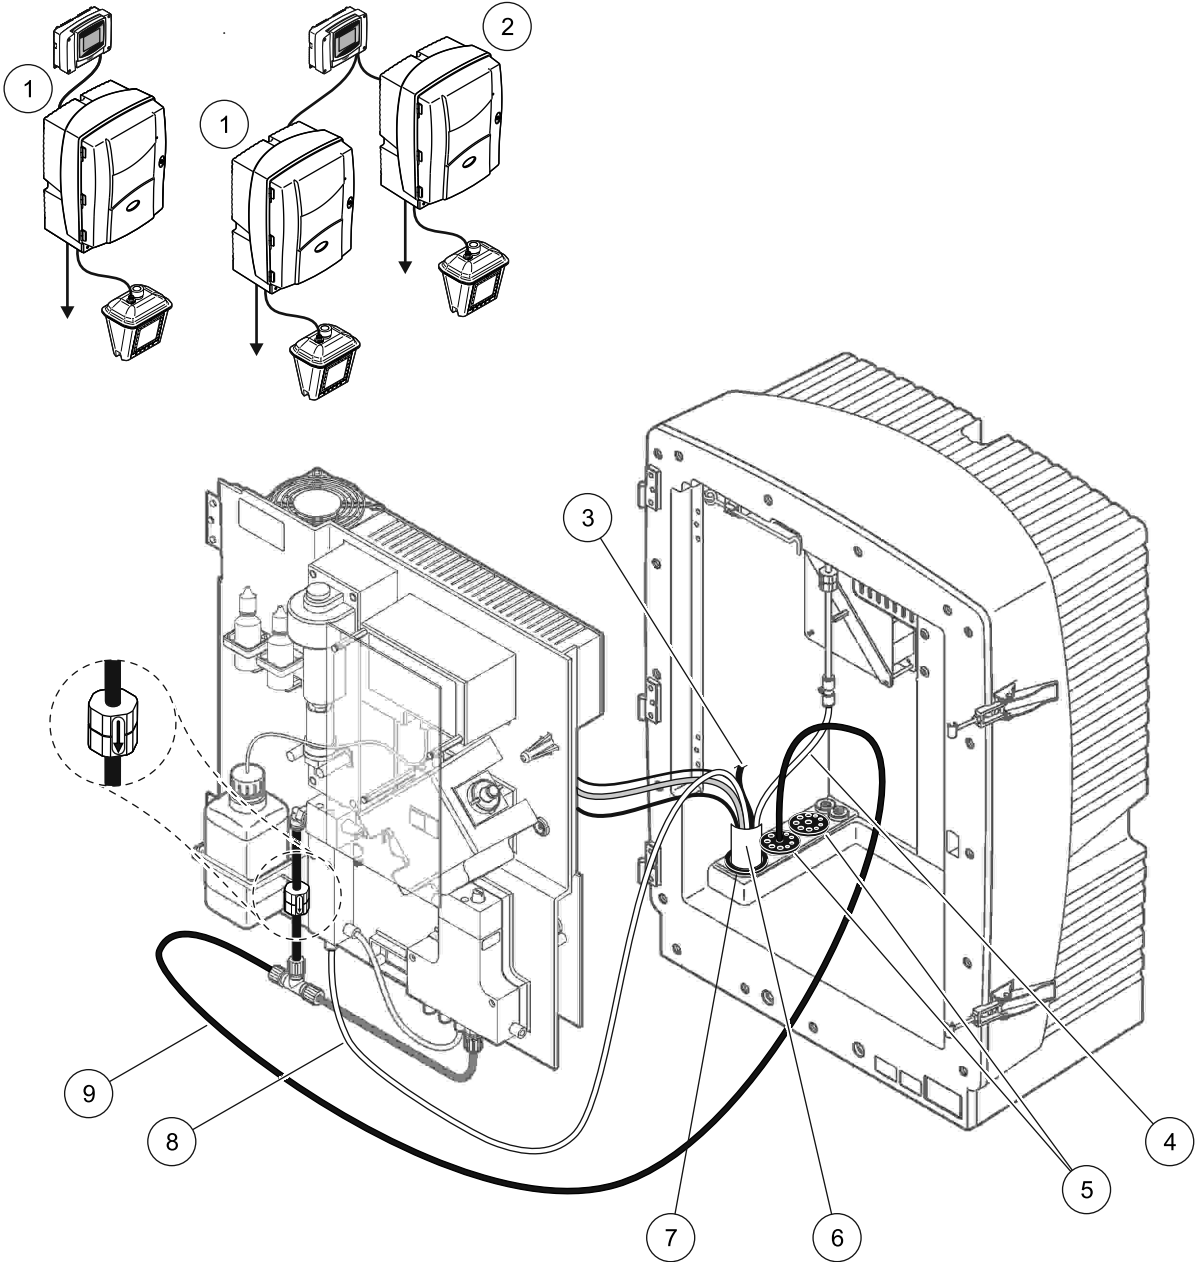

Figure 35 Option 7 setup
Refer to Figure 35 and the following instructions for Option 7:
2. Feed the Filter Probe sc hose (sample lines, electrical cables, drain tube) through the analyzer opening (Figure 35, item 6). Use Seal Plug #2 to secure.
5. Connect the air tube to the compressor (item 4).
7. Connect the sample line to the sample inlet on the overflow vessel using the fittings (item 8).